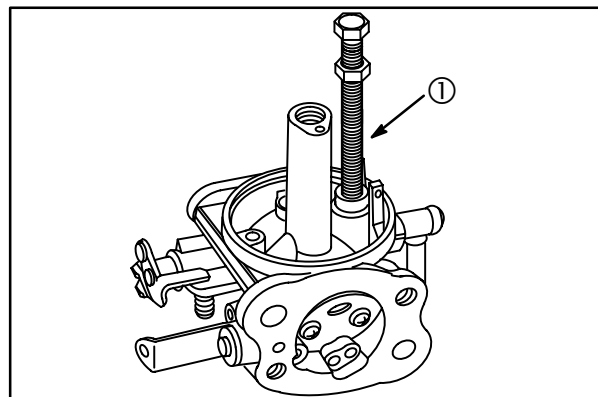

Fig. 49
1. Use Screw **#93029** (1) from Flywheel Puller, **#19165**. Thread screw into seat body **3 - 4** turns, **Fig. 49**. Remove the screw from the seat body.